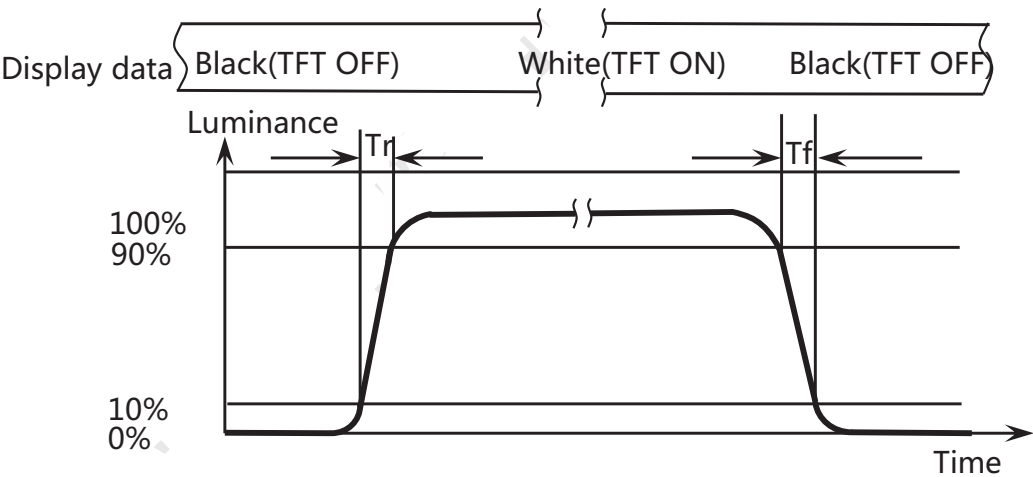

Figure 9. Response Time Testing
3. The figure 9 shows a polar coordinate system to define viewing angles or measurement angles relative to the surface of a display. Customarily, the “top” side of the display corresponds to the “12 o’clock” viewing direction ($\phi = 90^\circ$), and other viewing directions are similarly related to positions of the hour hand on a clock. The sub-pixel drawn is to illustrate the orientation of the display active area